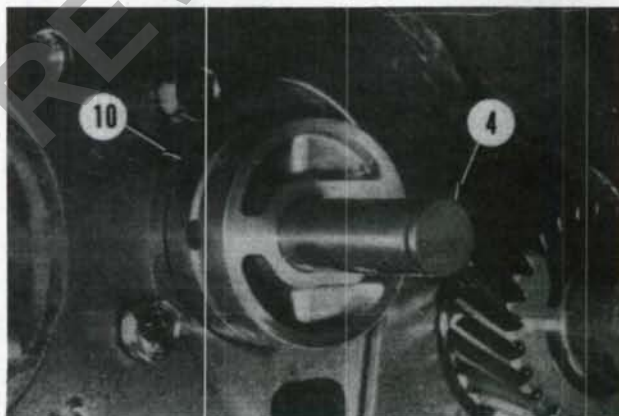

Fig. 69—Idler gear shaft (4) and oil port block (10) assembly is a press fit in cylinder block.
The idler shaft (4—Fig. 69) and oil port block (10) assembly is a press fit in bore of cylinder block. If renewal is required, special tool No. 11097 or other suitable puller tool and a slide hammer may be used to remove oil port block from cylinder block. Special installing tool No. 11063 is available for proper installation of port block. The port block is correctly installed when installing tool bottoms against engine block.